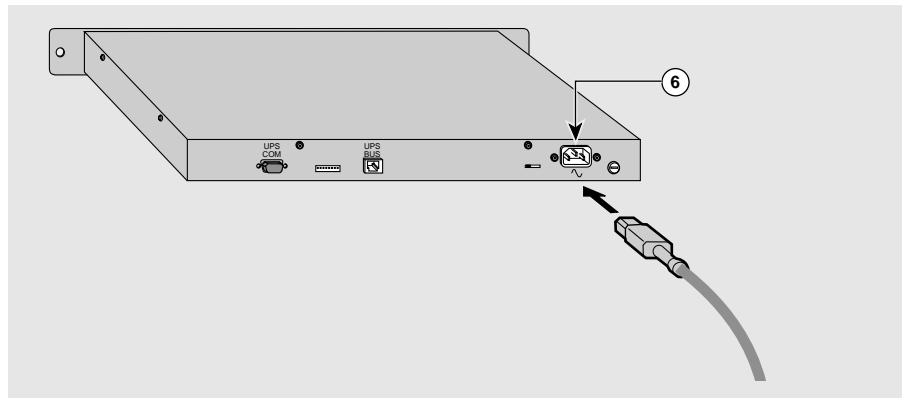

Fig. 4
Once the voltage has been correctly set, insert the cord in the socket **6** at the back of the **MultiSlot** module (see figure 4). The cord is made up of two active wires and an earth wire which must be connected to the installation earthing terminal.
- ▶ check that the power cable is properly connected (see figure 4),